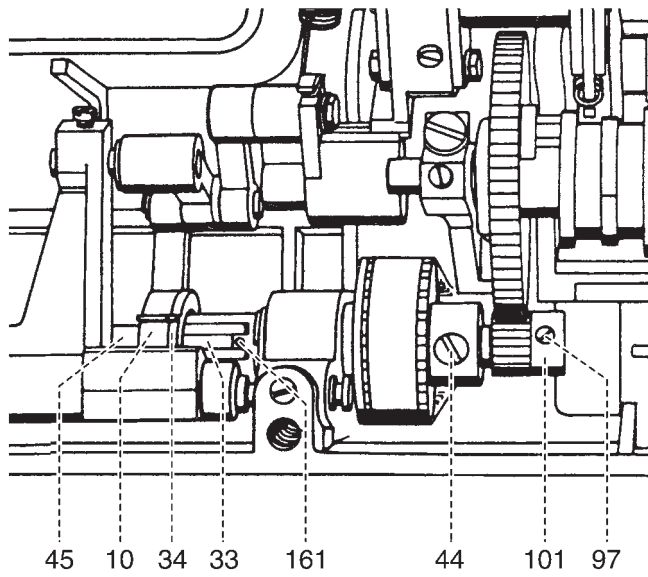

Fig. 110
- Knock out hollow pin 161 (fig. 110).
- Loosen the three screws 44 of the lower belt sprocket (fig. 110).
- Insert hook shaft bushing 109 and tighten screw 110 lightly (fig. 110).